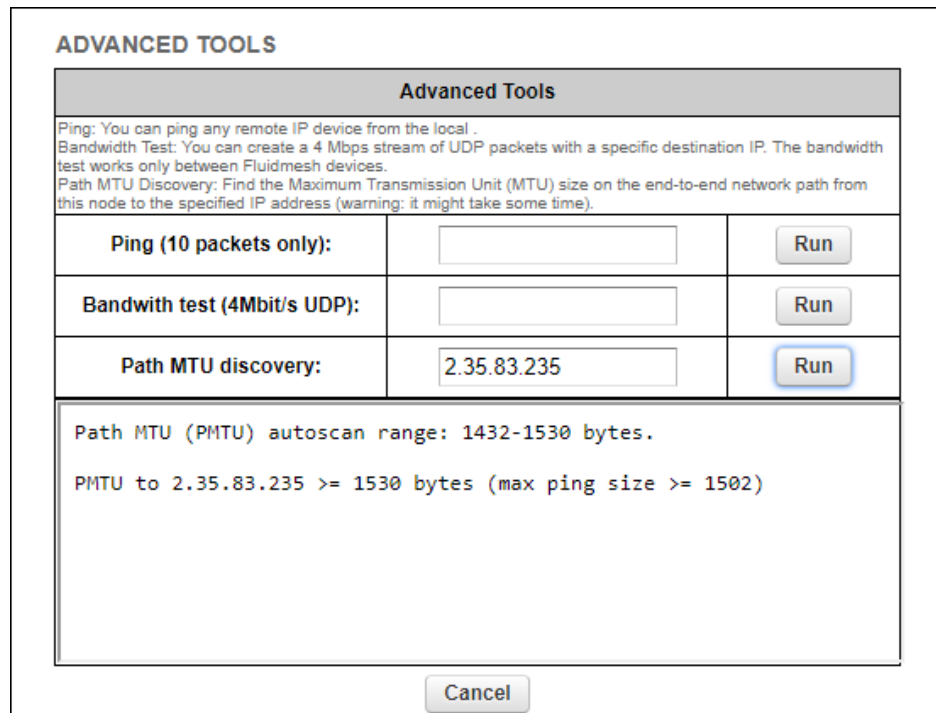

Figure 30. Advanced Tools window (Path MTU test tool)
2. Enter the IP address of the second unit in the **Path MTU discovery** field (Figure 30 (page 91)).